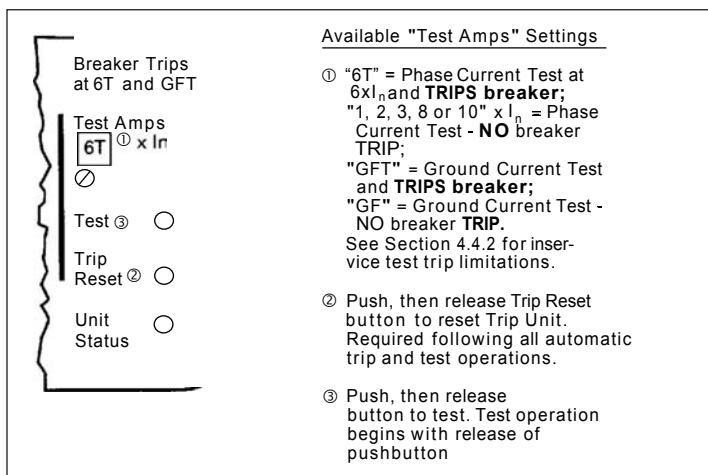

Figure 19. Integral Test Panel (Lower Right Corner of Trip Unit).
As indicated in Figure 19, six different "Test Amps" settings (1, 2, 3, 6T, 8 and $10 \times I_n$) are available for testing the phase elements of the Trip Unit, and two settings (GF and GFT) are provided for testing the ground element.
1. Place the "TEST AMPS" selector switch (see Figure 19) in one of the six "No Trip" test settings, i.e., 1, 2, 3, 8, or $10 \times I_n$, or GF.
2. Place the "TEST AMPS" selector switch (see Figure 19) in either the "6T" (or "GFT") position.
3. Press and release the (Black) "TEST" push-button (see Figure 19) - the test starts when the push-button is released.
5. Reset the Trip Unit by pressing and releasing the "Trip Reset" push-button (see Figure 19). All LEDs lit by the "Trip" test action should turn "OFF".